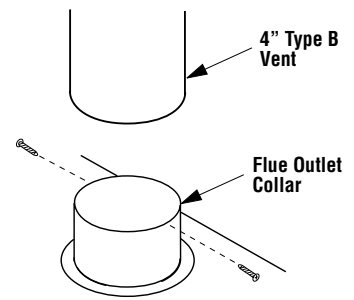

Figure 10
A - Connect a 4" (102 mm) Type B vent system to the appliance flue collar with two (2) No. 8 sheet metal screws (**Figure 10**) and install the remainder of the Type B vent to the outside.